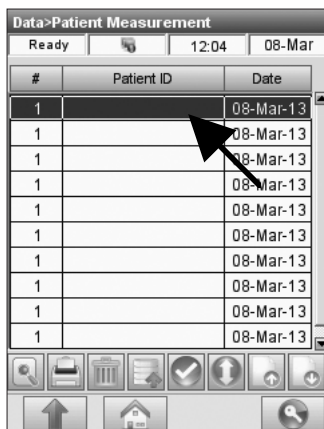

Fig. 6-3 Patient Measurements
3. In the **<Data - Patient Measurement>** screen (Fig. 6-3), select a measurement and press the **<View>** button  to display the measurement results (Fig. 6-4).
5. To print individual results, highlight the desired measurement (Fig. 6-3).